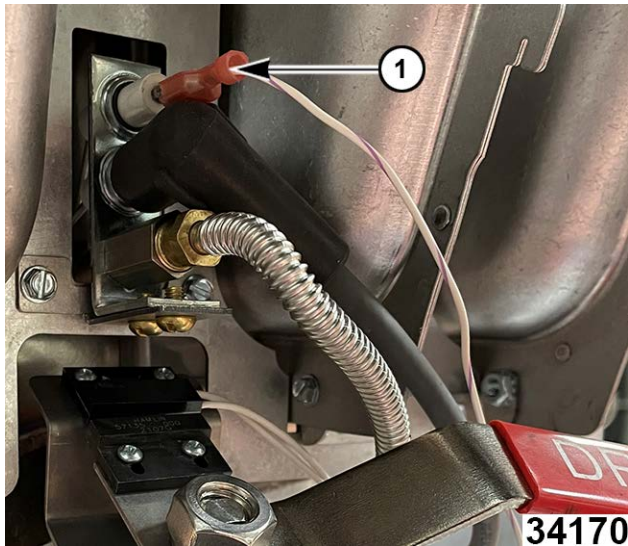

Fig. 61
1. Access PILOT ASSEMBLY (1, Fig. 61).